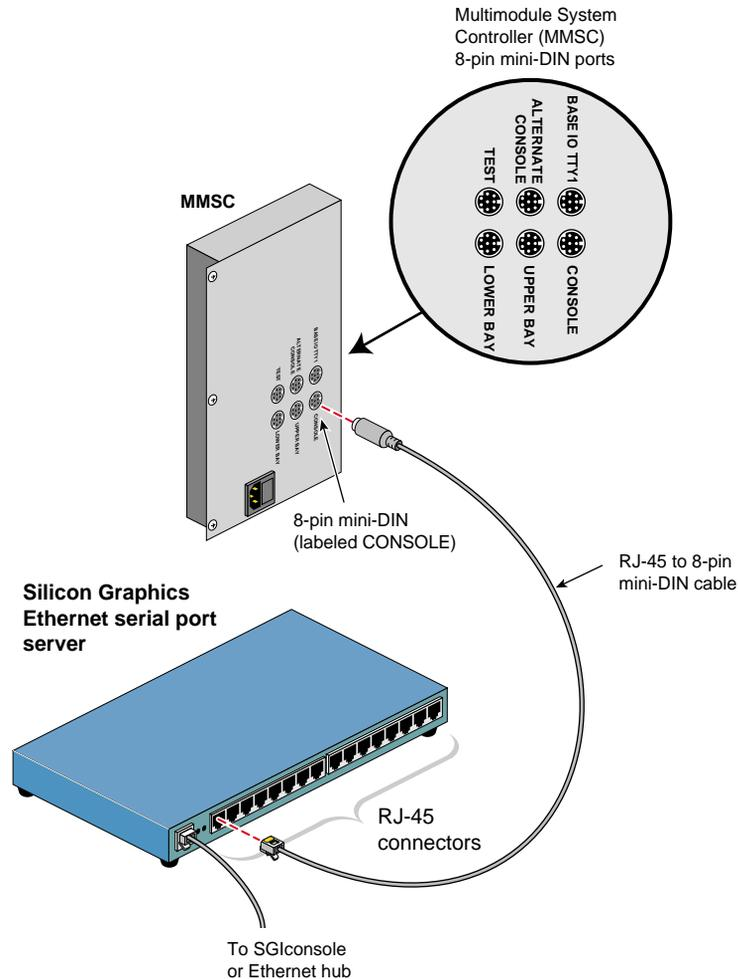

Figure 5-33 Connecting the MMSC 8-pin mini-DIN Console Port to the Serial Port Server
6. Connect the RJ-45 connector end of the RJ-45 to 8-pin mini-DIN twisted-pair serial cable to one of the RJ-45 serial jacks on the Silicon Graphics EL-16 serial port server. Then connect the 8-pin mini-DIN end of the cable to the MMSC 8-pin mini-DIN jack labeled “Console.” See Figure 5-33.